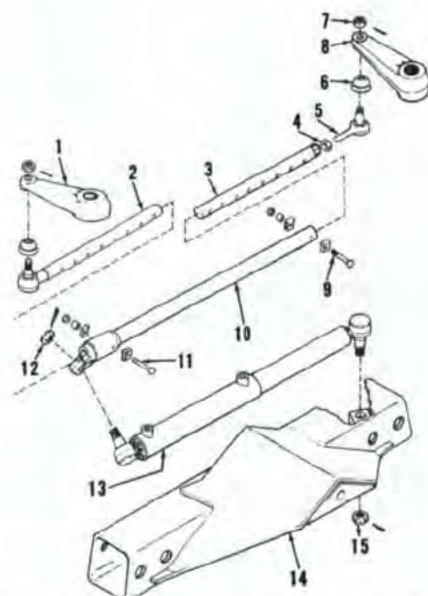

Fig. 3—Exploded view of steering tie rod, cylinder, and arms typical of all models. (Standard wheel base axle shown.)
Disassembly of tie rod assembly is obvious after examination of unit and reference to Fig. 3. However, upon reassembly make sure clamp bolt (9) for left side drag link (3) is installed in same number hole as left side axle extension outer bolt; and that right side drag link bolt (11) is installed in one less number hole of drag link (2) than outer mount-
Front wheel toe-in must be 1/8 to 1/2 inch (3.2-12.7 mm). To adjust toe-in, remove clamp bolt (9—Fig. 3) on left drag link. Loosen jam nut (4), then turn drag link (3) in or out until desired toe-in is obtained. Install clamp bolt and tighten nut on clamp bolt to 45-54 ft.-lbs. (61-73 N·m) torque. Tighten jam nut (4) against drag link.
5. To remove axle main member, first raise and support tractor under engine side rails with suitable jack stands. Disconnect tie rods from steering arms, then refer to Fig. 3 and disconnect power steering cylinder (13) from axle main member and tie rod lug. Secure steering cylinder up and out of the way. Be careful not to damage hydraulic lines to cylinder.